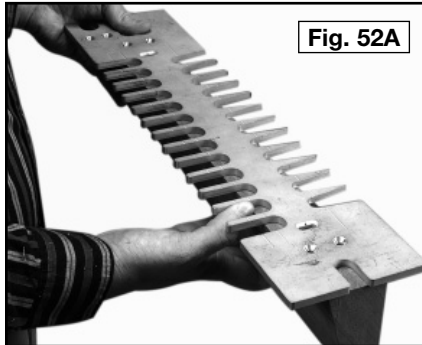

Fig. 52A
- Step 3** - Attach the template to the clamping board with #10 wood screws. Position the angled surface on the side of the template with the straight fingers (Fig. 52A).